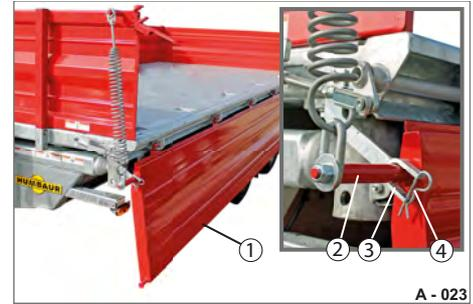

Fig. 25 Platform gate, secured
- ▶ Fold down the platform gate (Fig. 25/1).
- ▶ Insert the fork head (Fig. 25/3) into the retaining bolt (Fig. 25/2).
- ▶ Secure the fork head using the spring pin (Fig. 25/4).